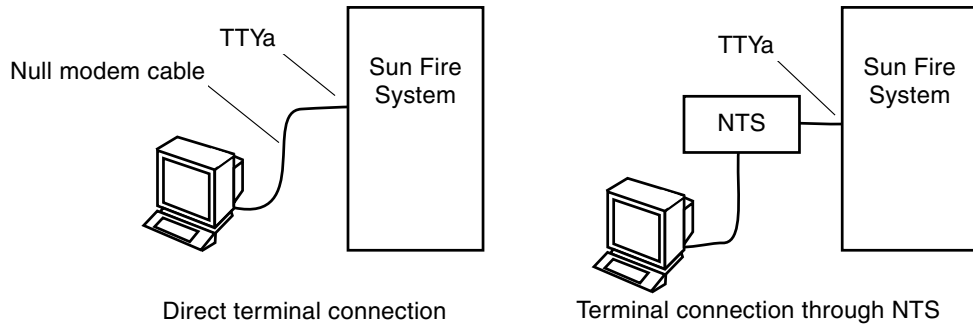

FIGURE 2-12 Serial Cable Connections
The initial system setup requires an ASCII terminal connected to the primary TTYa serial port on the patch panel using a null modem cable or through a network terminal server (NTS) (FIGURE 2-12).
2. Connect the other end of the serial cable to the chosen ASCII terminal or NTS server (FIGURE 2-12).